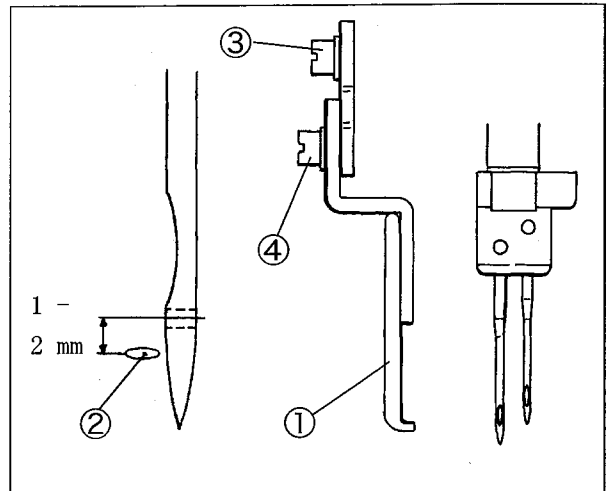

Fig. 50
The engagement between the movable trimming knife ③ and the fixed trimming knife ④ should be adjusted to 0-0.05 mm as shown in Fig. 50.